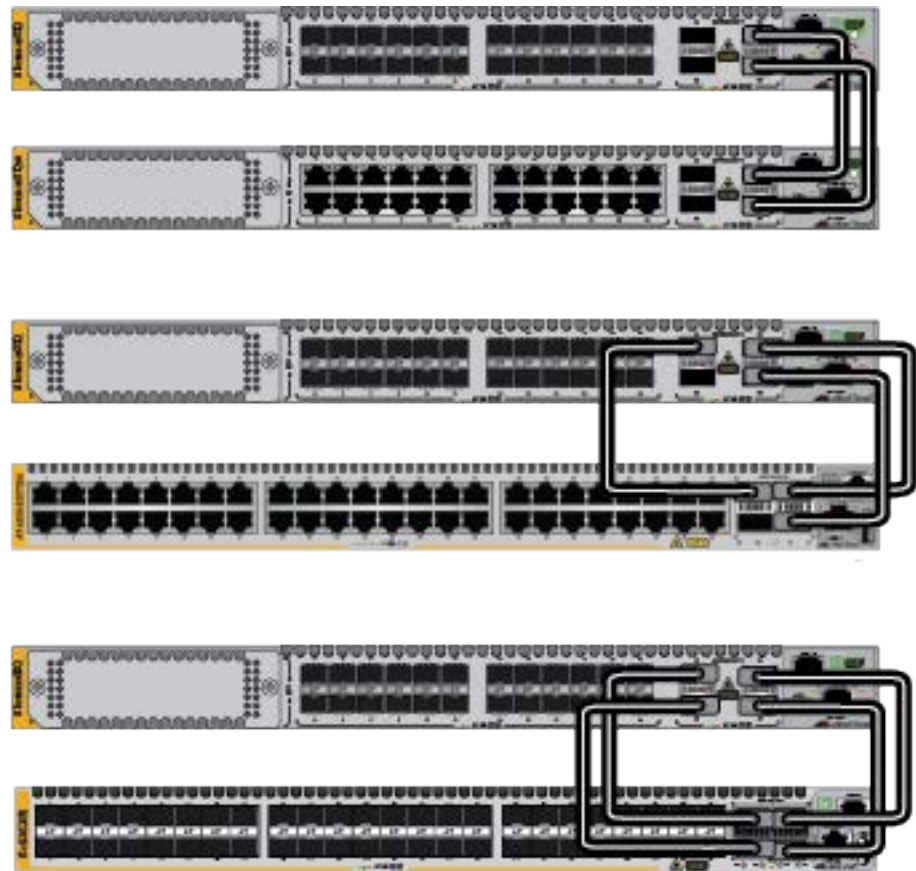

Figure 35. Stack Trunk Examples of Two Switches with Trunk 40Gbps Links
- ❑ For stacks of two switches, you can use two, three, or four ports per switch for trunks. Examples are show in Figure 35.